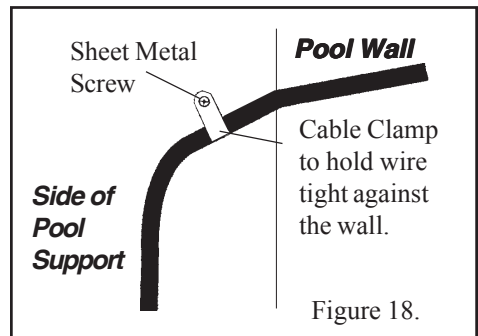

Figure 18.
15. Using the cable clamp provided, attach the cable clamp to the cord and mount the cable clamp to the pool support, see Figure 18, so that the cord lies flush against the pool wall. Do not attach directly to the pool wall. This will keep the cord flush to the wall; see Figure 19.